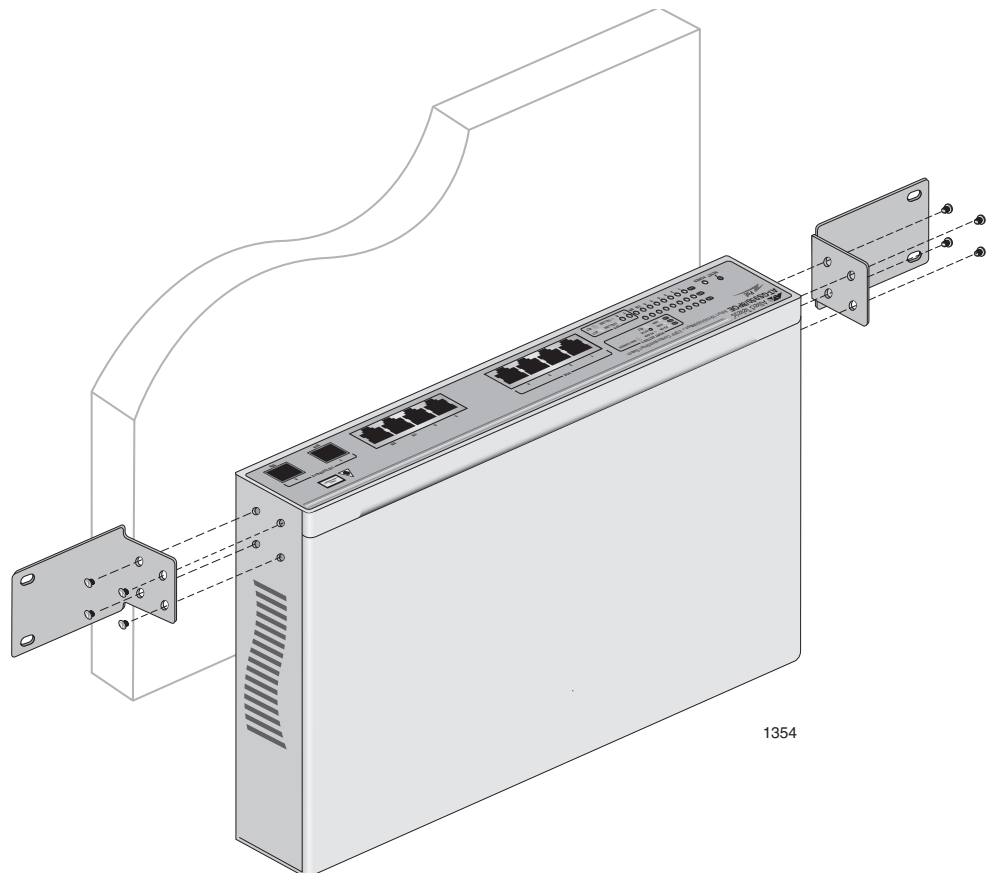

Figure 10. Attaching a Rack-mount Bracket for Wall mounting
4. Attach the two rack-mounting brackets (provided) to the sides of the switch using the eight flathead Phillips screws (provided), as shown in Figure 10.